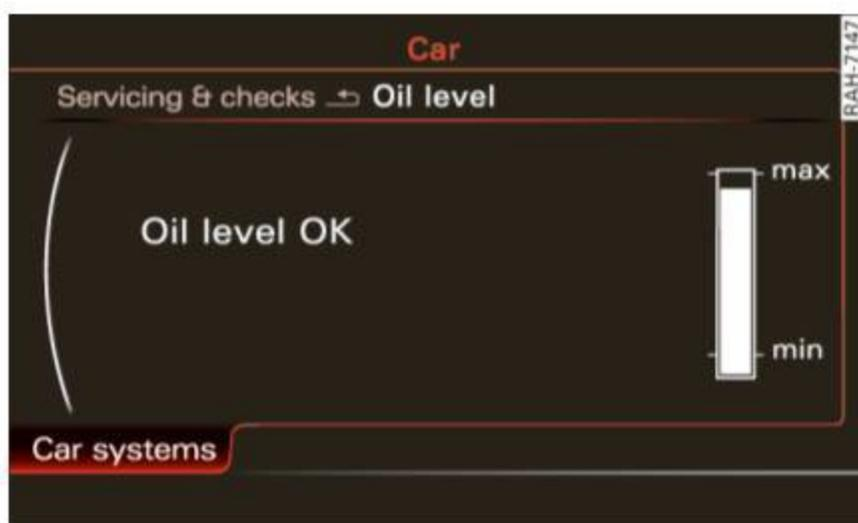

Fig. 162 MMI Display: Oil level indicator
- ▶ Read the oil level in the MMI* Display ⇒ *fig. 162*. Add engine oil if the bar of the oil level indicator is near "min" ⇒ *page 195*